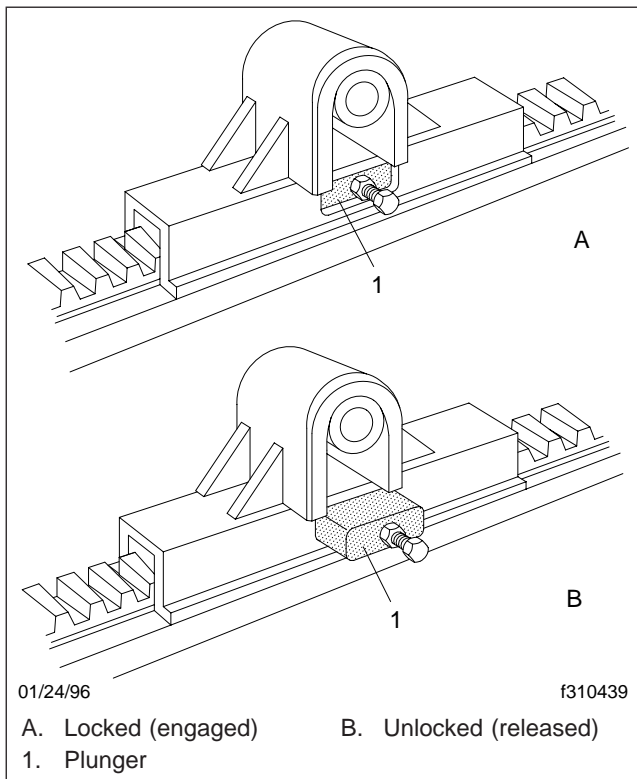

Fig. 10.7, Plunger Positions
- 8.1 For air-operated models, set the cab-operated control switch to LOCK. Visually check the slide plungers to make sure they are engaged in the fully locked position. See Fig. 10.7.
- 8.2 For manual release models, trip the release lever (Fig. 10.3) using a release hook or other suitable tool. Make sure that both plungers have locked (retracted into their pockets), and are fully engaged in the rack teeth. See Fig. 10.7. It may be necessary to move the tractor slightly while keeping the trailer brakes locked.